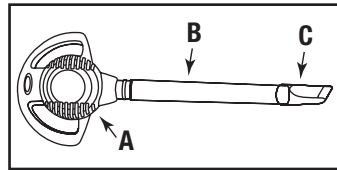

FIGURE 13
26. Insert 2-1/2" extension wand (B) into the blower exhaust (A). Push firmly into place by twisting wand slightly. Attach desired accessory (C). **FIGURE 13.**